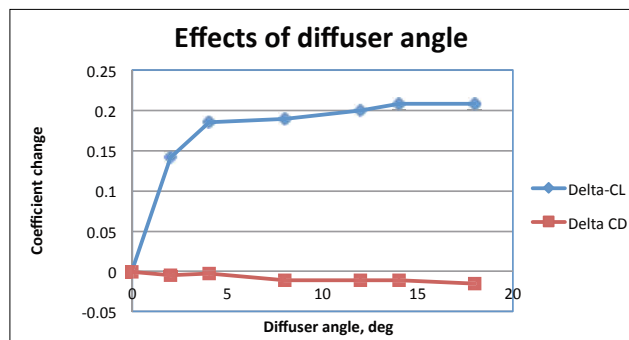

Figure 3: Diffuser angle had marked effects on downforce and drag
in the graphs in **Figures 3** and **4**. Ground clearance was 50mm (2in) in all cases (overall length was 3550mm or ~140in, so h/L was 0.0141).
Looking first at the data in **Figure 3**, it's apparent that generally drag (CD) declined modestly with increasing diffuser angle, whereas downforce (-CL) increased initially very markedly but then more modestly, up to around 14 degrees before levelling off. We'll return to possible mechanisms for this behaviour shortly.